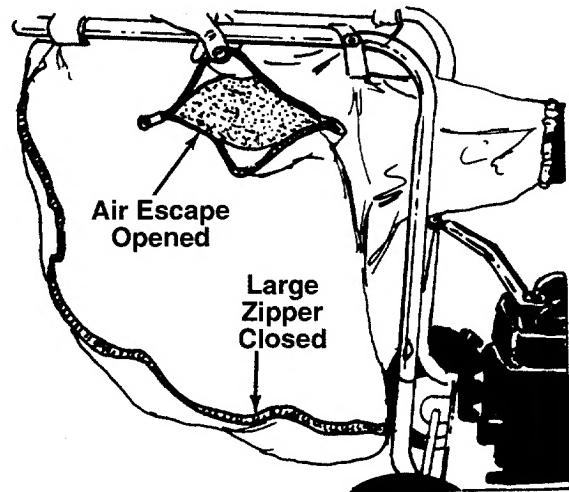

FIGURE 16.
**IMPORTANT:** The vacuum bag may have an air escape located on the upper right hand side. See figure 16. The air escape can be opened if the vacuum is operated in wet, sandy or muddy conditions.
The bag may be emptied using the large zipper as shown in figure 16. Be certain the zipper is closed when operating the unit.